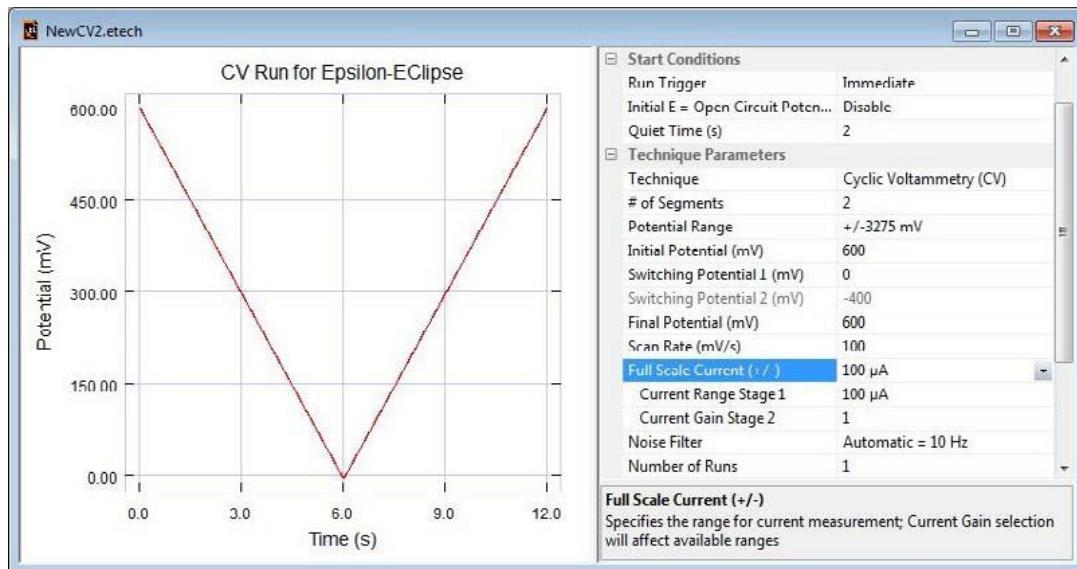

Figure 2 - Editing the .etech for Cyclic Voltammetry
4. Select **Cyclic Voltammetry**. The **new.etch** file can now be edited. Enter the values shown in **Figure 2**. Note that **Switching Potential 2** is not required since there are only 2 segments (**Initial Potential to Switching Potential 1 to Final Potential**). Various experimental data can be entered into the **Experimental Conditions** section. These notes will also be saved when the experimental data is saved. Once these changes have been entered, an experiment using these parameters can be run by clicking the **RUN** button. An experiment can be run using either **Run** in the **Experiment** menu, or the **RUN** icon on the Tool Bar. This icon will change to **STOP** during the experiment, and can be used to abort the experiment.